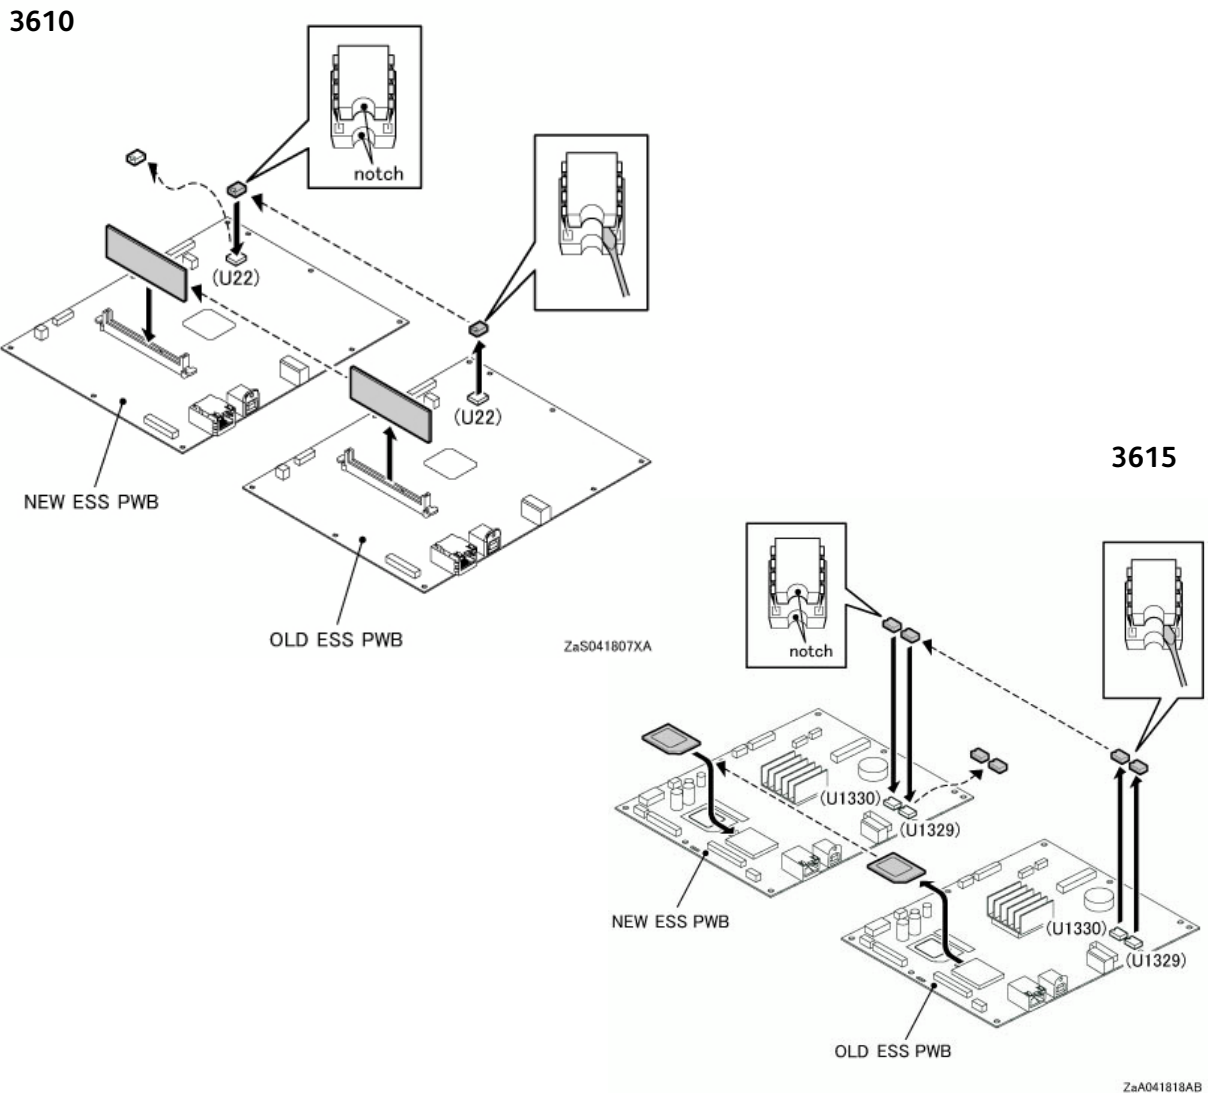

Figure 3
2. Before installing a replacement ESS PWB, transfer these components: (Figure 3)